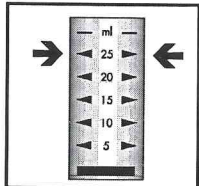

Figure 2
2. Fill the sample cup to the 25 mL mark with the sample to be tested, being careful to minimize turbulence. (fig 2).